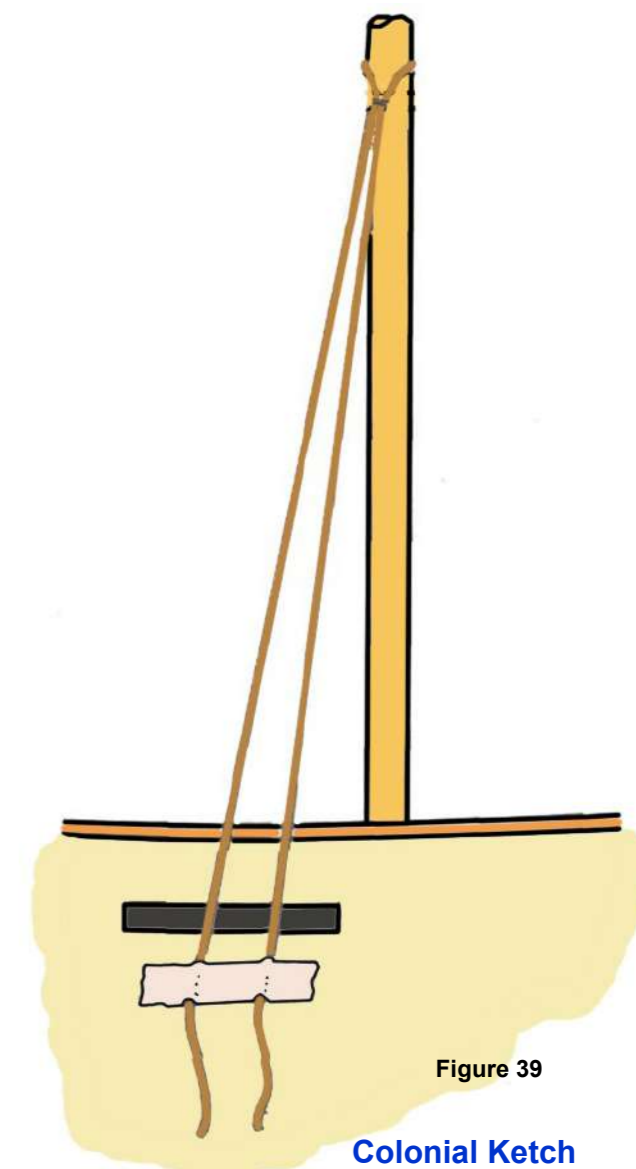

Figure 39
1. Temporarily attach a length of rigging cord from the mast head down to below the channel. Tape the cord to the hull below the channel—Figure 39.